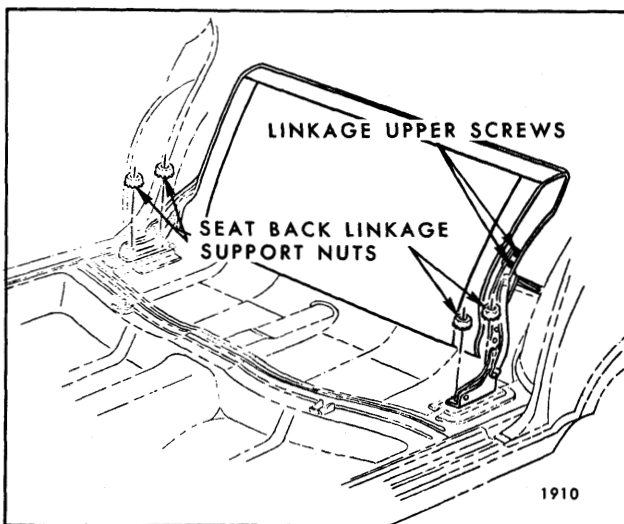
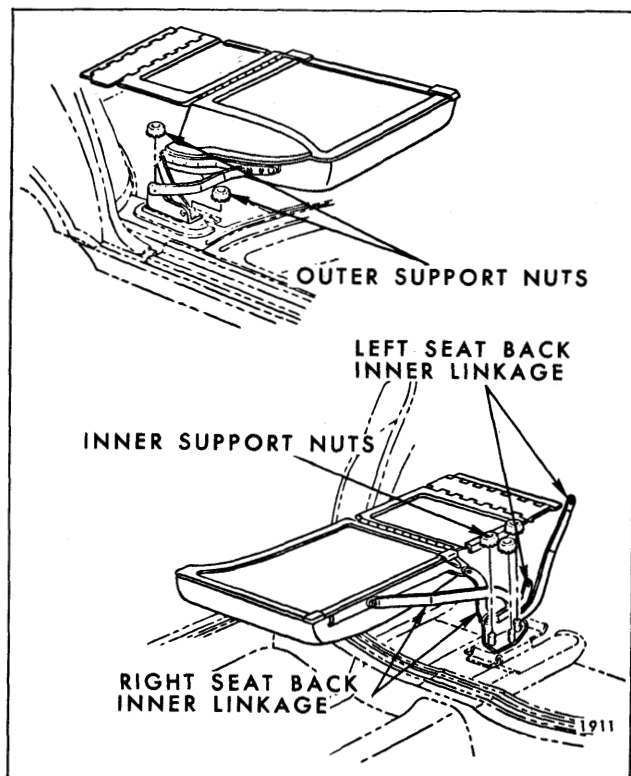

Fig. 10-56—Folding Second Seat Back Supports (Full Width Seat)
Fig. 10-57—Folding Second Seat Back Supports and Linkages (Split Seat)
3. Mark position of folding second seat back linkage supports on floor pan. Remove nuts from both sides of seat back securing linkage supports to floor pan (See Figure 10-56), full width seat (Fig. 10-57) for split seat.
5. Remove nuts securing linkage support to floor pan (See Fig. 10-56); then carefully remove linkage assembly from seat back and floor pan.
3. Remove nuts securing inner linkage assembly to floor pan (See Fig. 10-57).